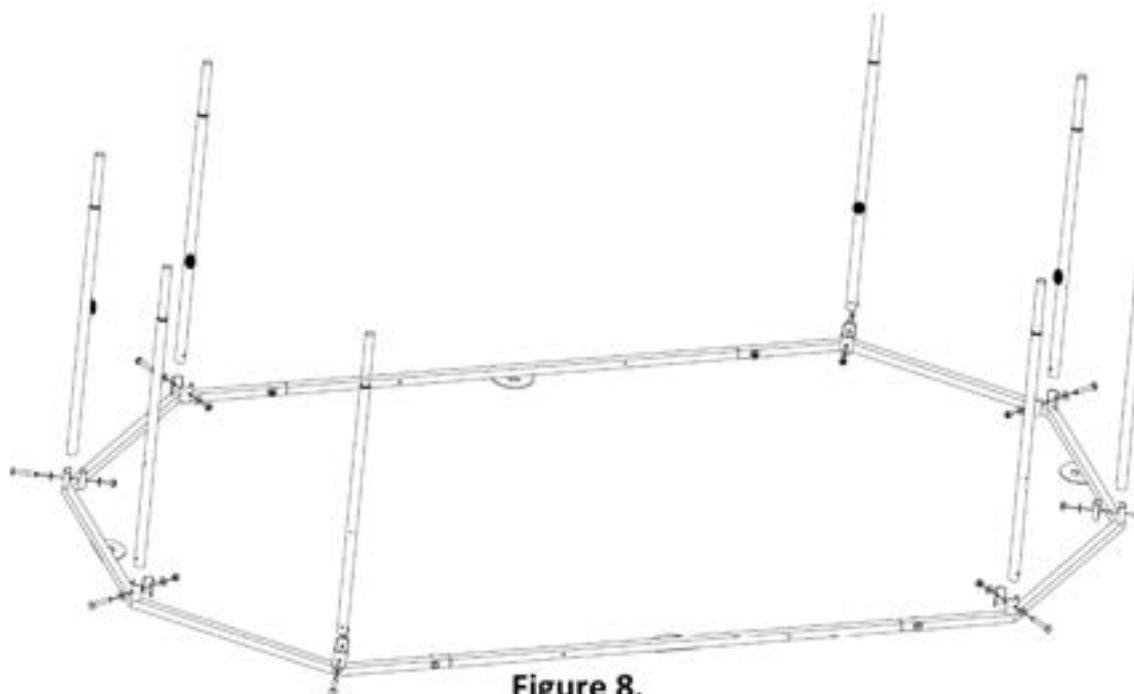

Figure 8.
**Step 8.** Install all the short uprights to the bottom main frame using eight  $\frac{1}{4}$ " x 1-3/4" socket head bolts, eight nuts, **no washers under the head of bolt or nuts**. Make sure the black versa buttons are facing the inside of the blind as seen in Figure 8. Tighten all bolts on the assembly.